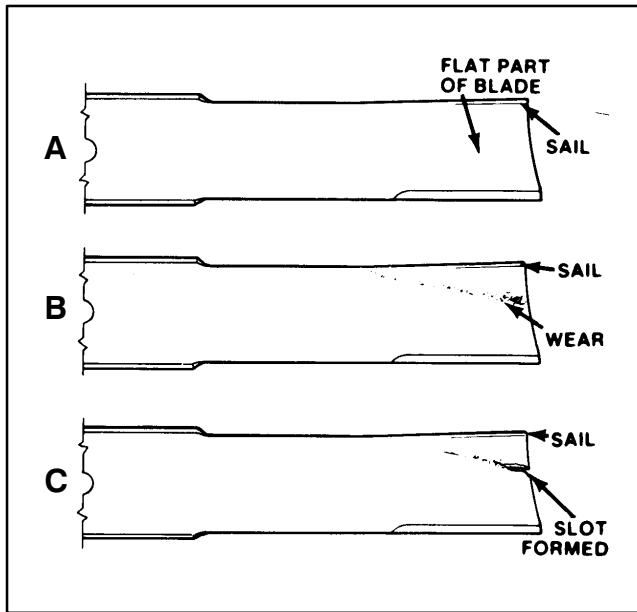

Figure 30
CHECKING SAIL AND SHARPENING CUTTER BLADE (Fig. 30–31)
2. Examine cutting ends of the blade carefully, especially where the flat and curved parts of the blade meet (Fig. 30–A). Since sand and abrasive material can wear away the metal that connects the flat and curved parts of the blade, check the blade before using the mower. If wear is noticed (Fig. 30–B), replace the blade.
If blade is allowed to wear, a slot will form between the sail and flat part of the blade (Fig. 30-C). Eventually a piece of the blade may break off and be thrown from under the housing, possibly resulting in serious injury to yourself or bystanders.